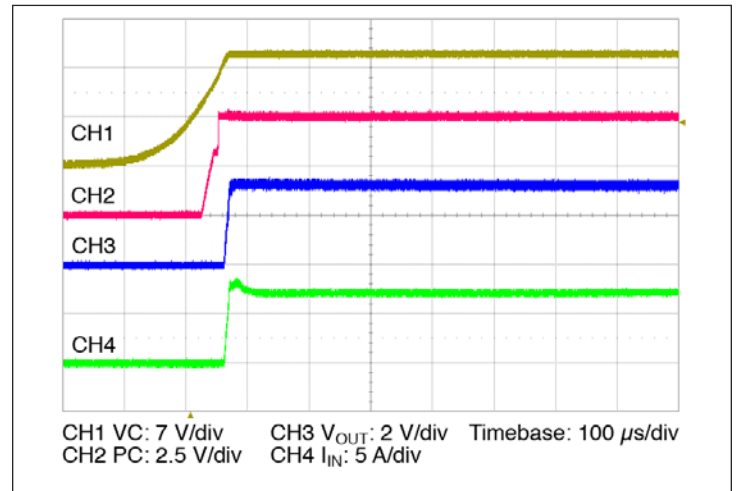

Figure 14 – Start up from application of VC; V_{IN} pre-applied $C_{OUT} = 0 \mu$ F
- Stand Alone Operation (VC applied after V_{IN}): In this case the VTM output will begin to rise upon the application of the VC voltage (See Figure 14). The Adaptive Soft Start circuit (See Section 10) may vary the output rate of rise in order to limit the inrush current to its maximum level. When starting into high capacitance, or a short, the output current will be limited for a maximum of 900 μ sec. After this period, the adaptive soft start circuit will time out and the VTM may shut down. No restart will be attempted until VC is re-applied, or PC is toggled. The maximum output capacitance is limited to 4000 μ F in this mode of operation to ensure a successful start.